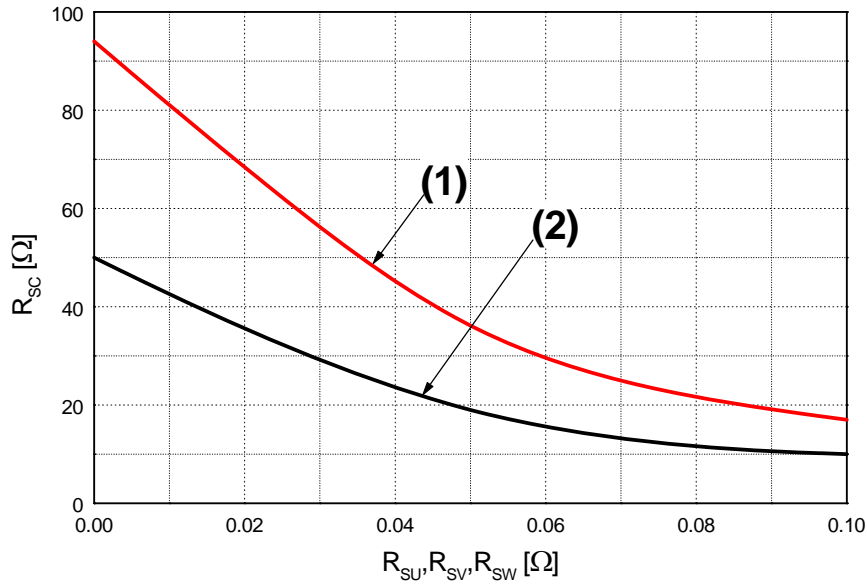

Figure 6. R_{sc} Variation by Change of Shunt Resistors (R_{su}, R_{sv}, R_{sw}) for Short-Circuit Protection
- Short-circuit protection is functioning only at the low-sides. It would be recommended that the value of the external sensing resistor (R_{SC}) should be selected around 50 Ω in order to make the SC trip-level of about 22.5A at the shunt resistors (R_{SU}, R_{SV}, R_{SW}) of 0 Ω. For the detailed information about the relationship between the external sensing resistor (R_{SC}) and the shunt resistors (R_{SU}, R_{SV}, R_{SW}), please see Figure 6.